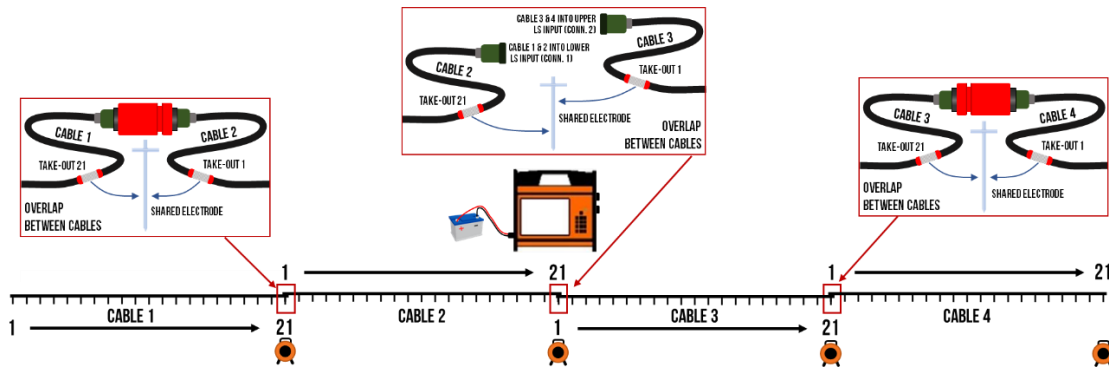

Figure 117 Schematic of an 81 electrode, 4-cable set-up; note the 21 take-out cables use an overlap between cables, where they share a single electrode
- If cables are used at their full take-out spacing, lay out the cables first, overlapping last and first take-outs (only done with 21 take-out cables, see Figure 117), then use the take-outs to position electrodes.